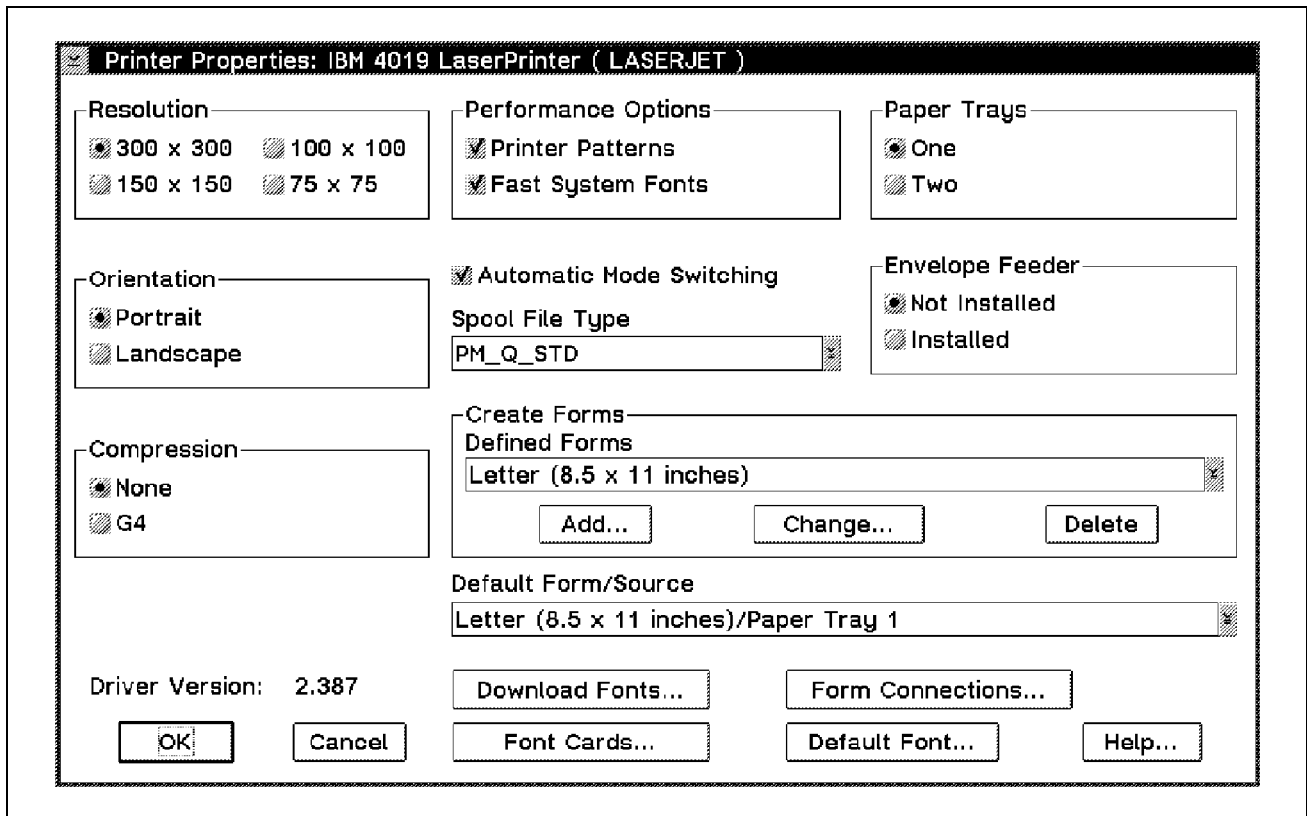

Figure 31. Example of Printer Properties of an IBM 4019
- Double-click on any printer driver icon. The printer properties will be displayed as seen in Figure 31 on page 94.
- In Figure 31 you see the printer driver version (2.218) of the 4019 Laser Printer in the lower left corner, above the **OK** button.